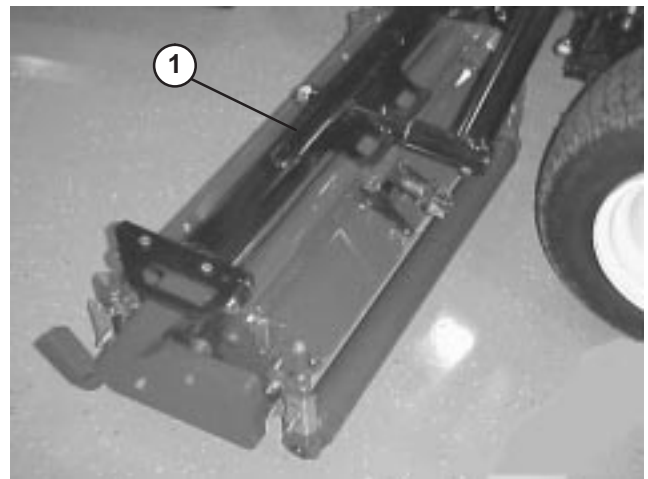
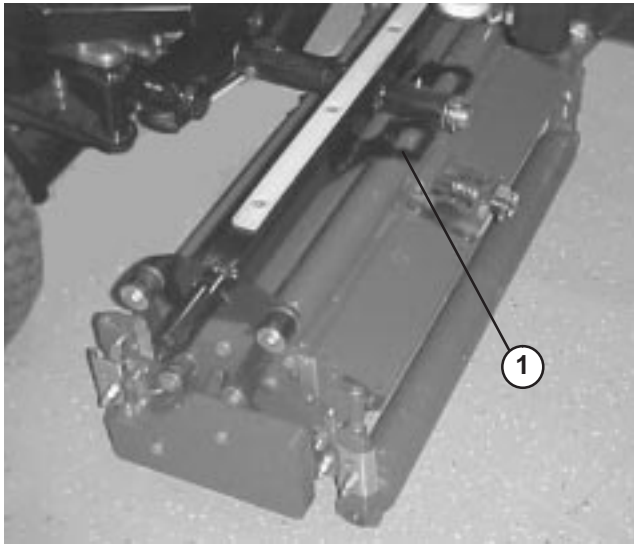
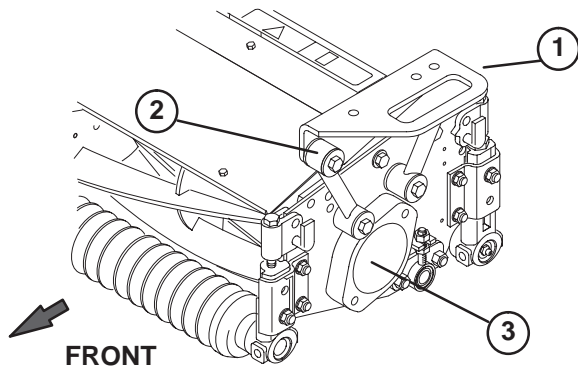

Figure 16
Figure 17
Figure 18
Note: With lift arms fully raised, hoses should be routed as shown in figure 18 and clear lift arm by .04–.12”.
2. Position a front carrier frame (Fig. 16) onto each front cutting unit. Align mounting holes with mounting links as shown in figure 18.
3. Position rear carrier frame (Fig. 17) onto rear cutting unit, aligning mounting holes with mounting links as shown in figure 18.
4. Secure each mounting link to carrier frame with a 3/8-16 x 2-1/4" lg capscrew, (2) flatwashers and a locknut, as shown in figure 18. Position a washer on each side of link when mounting. Torque to 31 ft-lb.
3. Remove shipping plug from bearing housings on remaining cutting units (Fig. 18).